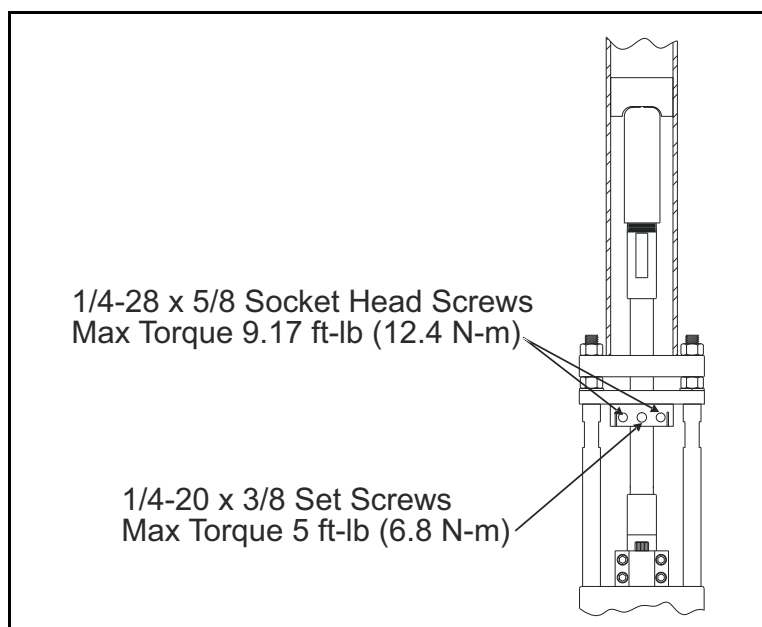

Figure 28: Securing the Safety Alignment Collar
5. Secure the safety alignment collar by tightening the two 1/4-28 x 5/8 socket head screws with an Allen wrench. Then, install the set screw in the threaded hole of the safety adjustment collar (see *Figure 28* below).